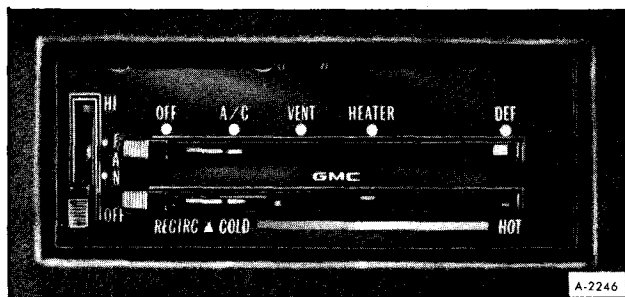

Figure 23—Air Conditioning Controls, Type 1
The modes are diaphragm switches which open and close the various doors in the air movement system allowing "Heat" "Air Conditioning", "Defrost" and "Vent" as shown on the control panel (figures 23 and 24).
CONTROLS (FIGURES 23 AND 24)
- "Type 1 Fan" (figure 23) — The fan switch has four positions; "OFF" and three blower speeds ranging from "LO" to "HI." The fan will not operate unless the top lever has been moved from the "OFF" position, and in order to operate the fan in the "HI" position the engine must be running.
- "OFF", "A/C", "VENT", "HEATER", "DEF" (figures 23 and 24) — With the lever in the "OFF" position the system is off, except for the blower. With the lever in the "A/C" position the air conditioning system is activated.
- **TYPE 1 "RECIRC", "COLD", "HOT"** (figures 23 and 24) — This lever, used in conjunction with the system selector lever ("OFF", "A/C", "VENT", "HEATER", "DEF") and the "FAN" switch lever, will control the temperature of the output air being distributed. With the lever in the "RECIRC" position (and the upper lever in the "A/C" position) the blower automatically goes to "HI" speed providing the engine is running. This position uses 80% recirculated air. This setting will provide maximum cooling. In combination with "A/C" setting moving the temperature lever to the "COLD" position provides 100% outside air. Further movement of the temperature lever to the right (toward "HOT" position) will heat the dehumidified air to the desired temperature. The "FAN" switch can be set to meet air flow requirements.